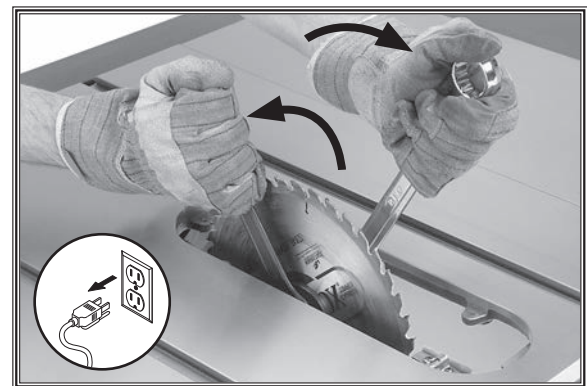

Figure 43. Example of removing table saw blade.
3. Use included arbor wrenches to loosen and remove arbor nut, flange, and blade (see **Figure 43**). Arbor nut has right-hand threads; turn counterclockwise to loosen.